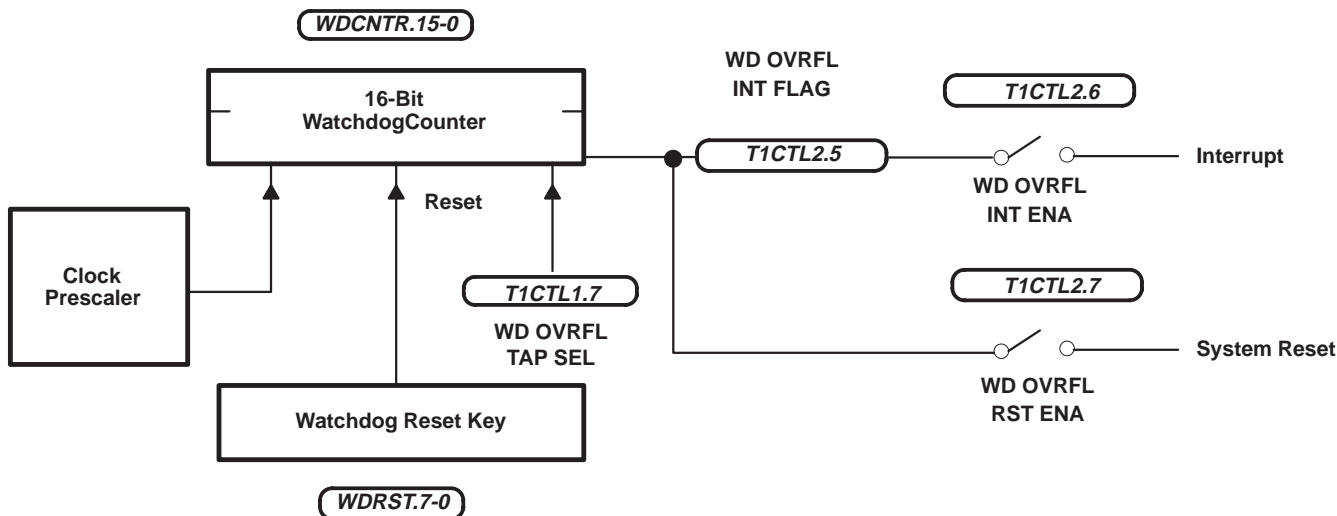

Figure 8. Standard watchdog
- Standard watchdog configuration (see Figure 8) – for EPROM and mask-ROM devices: